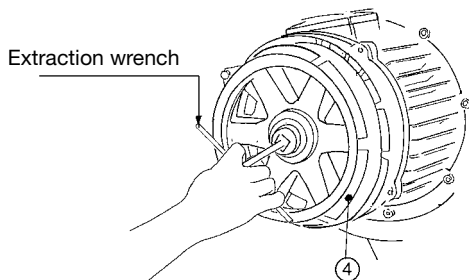

Fig. 18
Removing and installing: first make sure that there is no load applied, loosen the screws pos. 1 (Fig. 16), and remove the brake housing pos. 2 (Fig. 16) and remove the brake adjusting the ring nut pos. 3 (Fig. 16) with the special wrench (Fig. 17). Remove the brake fan pos. 4 (Fig. 18). Install the new fan pushing it forward with a lead mallet, install the brake housing pos. 2 (Fig. 16) and the screws pos. 1 (Fig. 16), and then perform the adjustment as shown in the section "brake fan adjustment" on page 65.